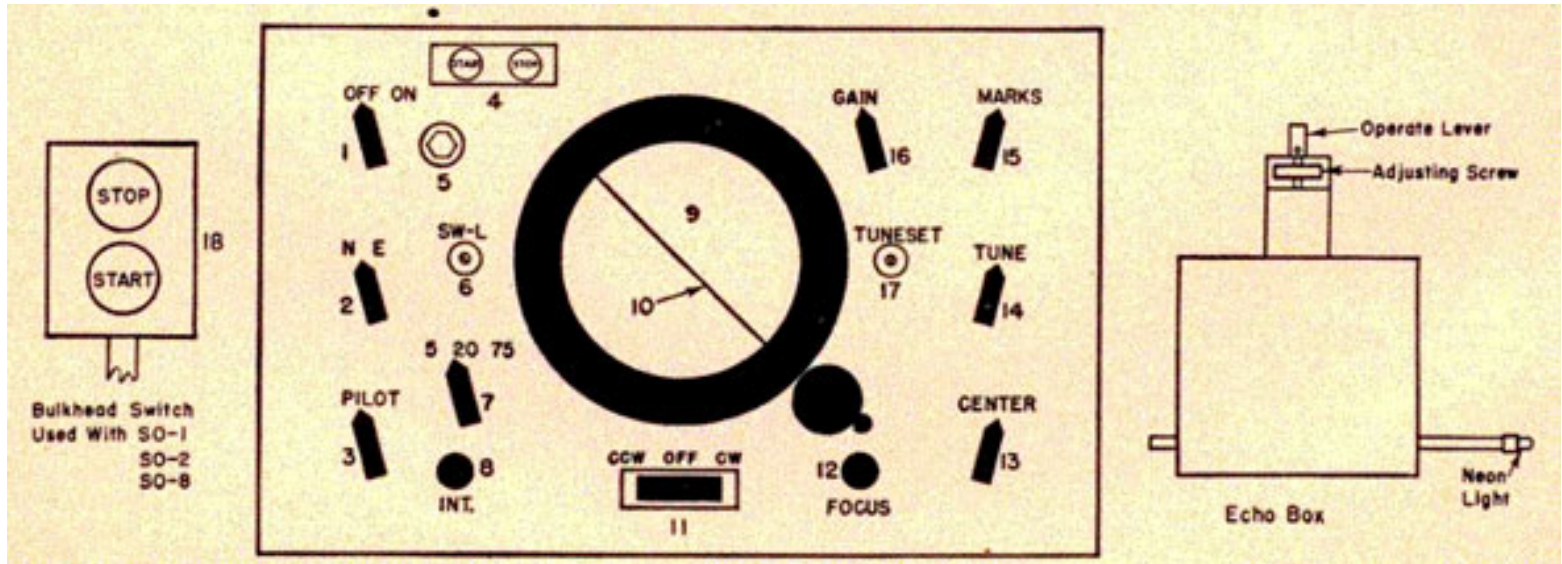

Figure 4 SO-1. Plan position indicator unit.
1. Put the operate lever in a horizontal position. (See illustration of echo box, fig. 4 SO-1.)